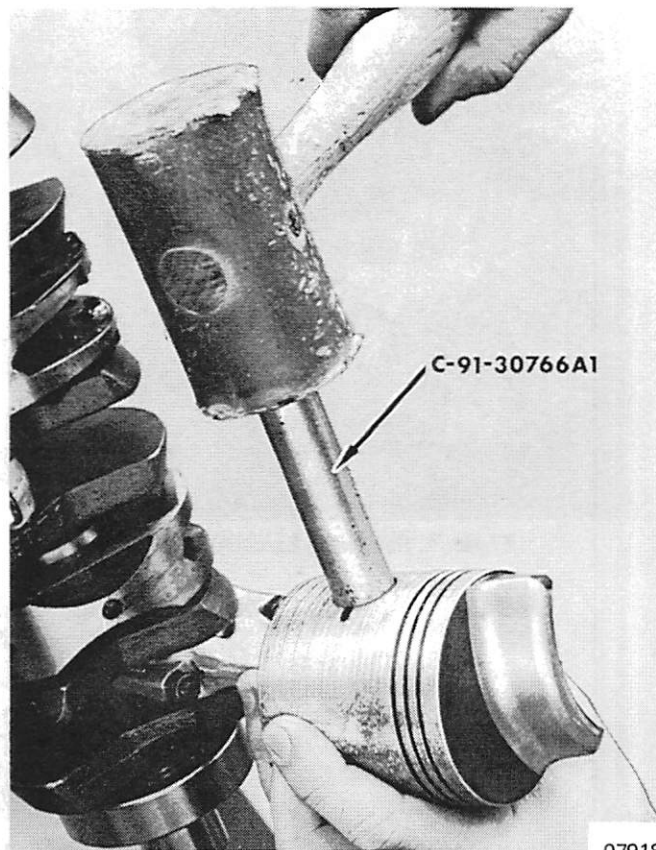

Figure 3. Removing Piston Pin
4. Using Piston Pin tool (C-91-30766A1), remove piston pins. (Figure 3) Place piston pin bearing retainer over end of piston pin tool and slide bearing retainer tool into center of piston pin bearings. Remove piston pin tool and remove piston. Bearings will remain in place until bearing retainer tool is removed.